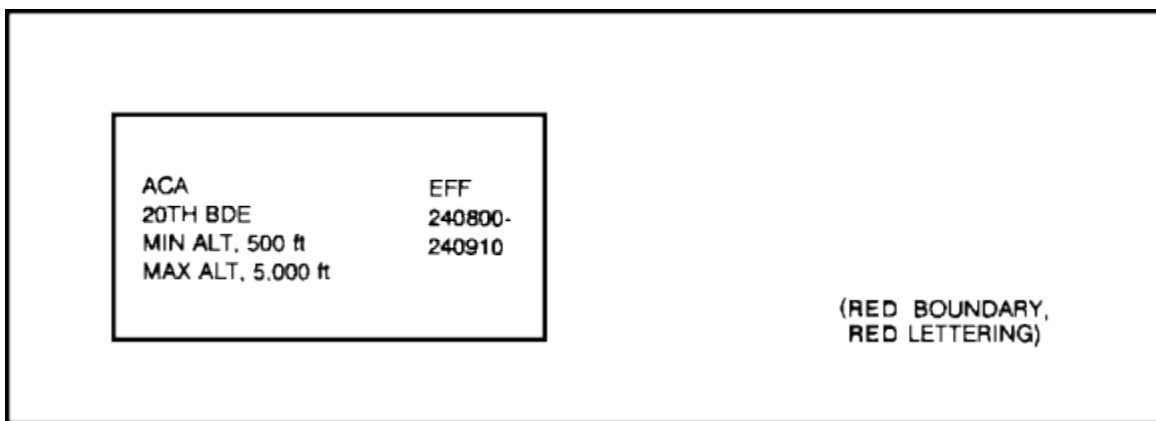

Figure 1-17. Formal ACA graphic symbol
- Formal airspace coordination area (ACA)—a block of airspace allowing relatively safe travel of aircraft to facilitate the simultaneous attack of targets by both aircraft and indirect fire assets. ACAs are established by brigade or higher headquarters. The graphic symbol for the ACA is shown in Figure 1-17.